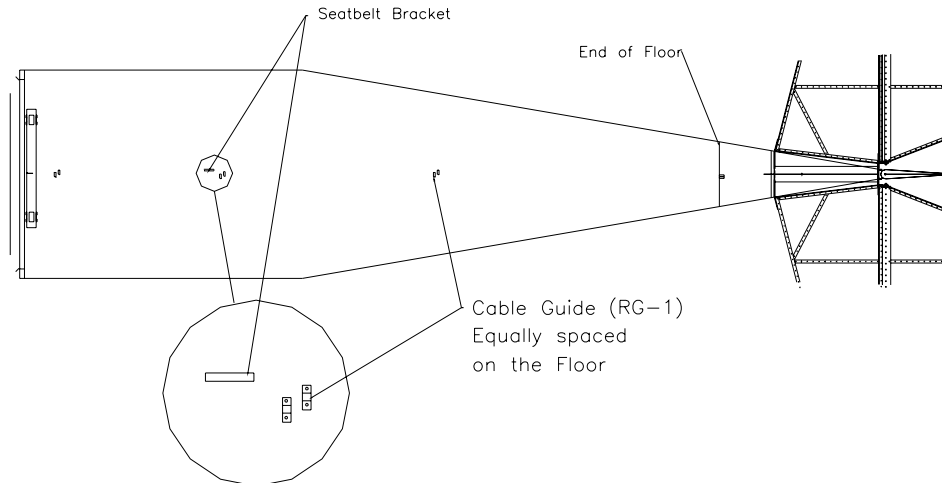

Figure 20.10.1
1) Position elevator cable guides in a straight line from the tabs on the control column to the pulleys at the end of the floor in the rear of the aircraft. Ensure that the cable will not interfere with the seatbelt bracket. Figure 20.10.1.